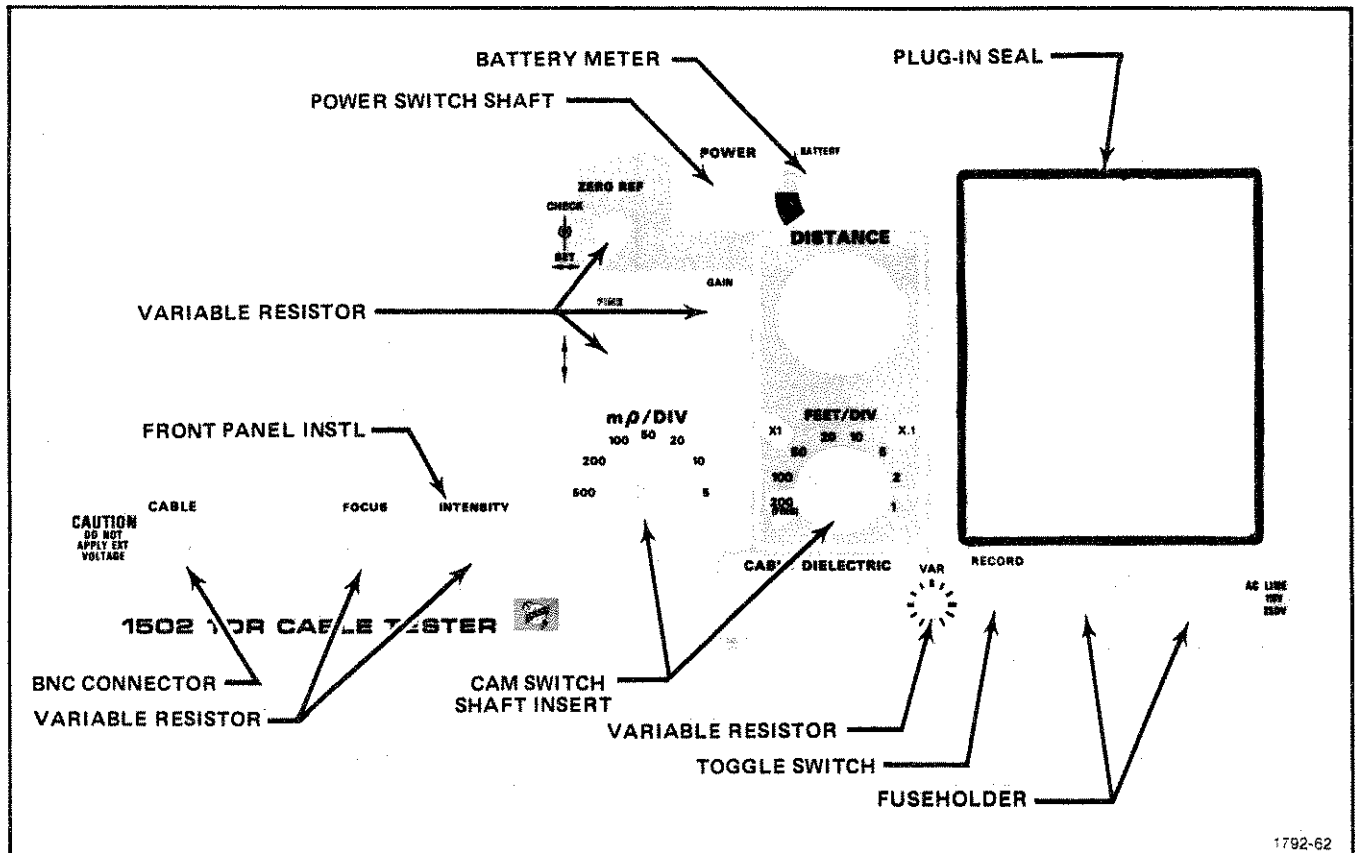

Fig. 5-8. Front Panel, identification of parts for assembly steps 8 through 26.
**8. Preparation of Front Panel for assembly (see Fig. 5-8)**